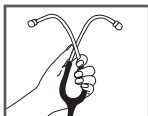

Fig. 2
3. To increase spring tension, squeeze the eartubes together as shown in Fig 2.